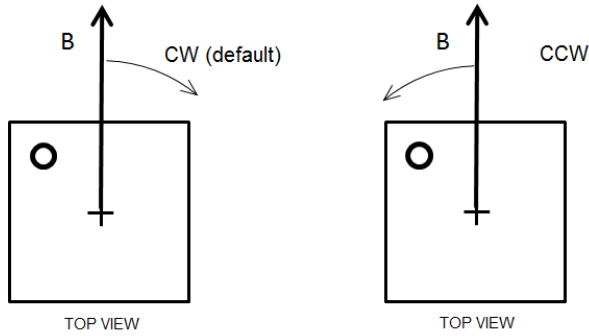

Figure 4: Sensor Angle Direction
By default, the angle increases when the magnetic field rotates clockwise (CW) looking from the top of the package (see Figure 4).